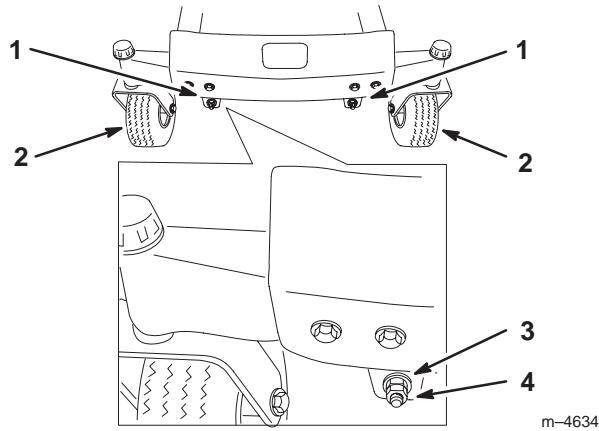
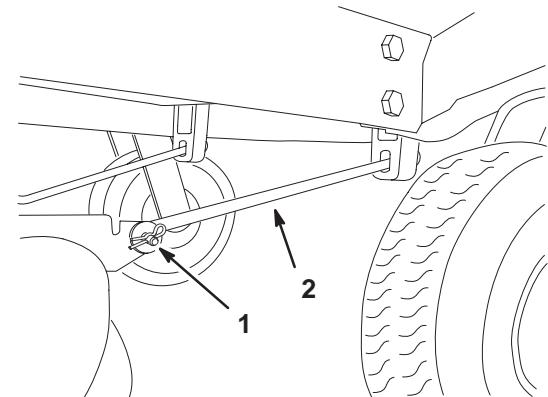

Figure 42
Figure 44
10. To adjust the front-to-rear blade slope, remove the locknuts and then rotate the adjustment nuts in the front of the mower (Fig. 42).
12. After adjusting both adjustment nuts evenly, check the front-to-rear slope again. Continue adjusting the nuts until the front blade tip is 1/16–5/16 inch (1.6–7.9 mm) lower than the rear blade tip (Fig. 42).
Note: After adjusting the adjustment nuts, make sure there is **no slack** in either support rod (Fig. 44). Tighten either one to remove the slack (Fig. 42).
- Remove the hairpin cotter and clevis pin from the front support rod on each side of the mower.(Fig. 44).
7. Attach the front support rods to the tractor with the clevis pins and hairpin cotters (Fig. 44).